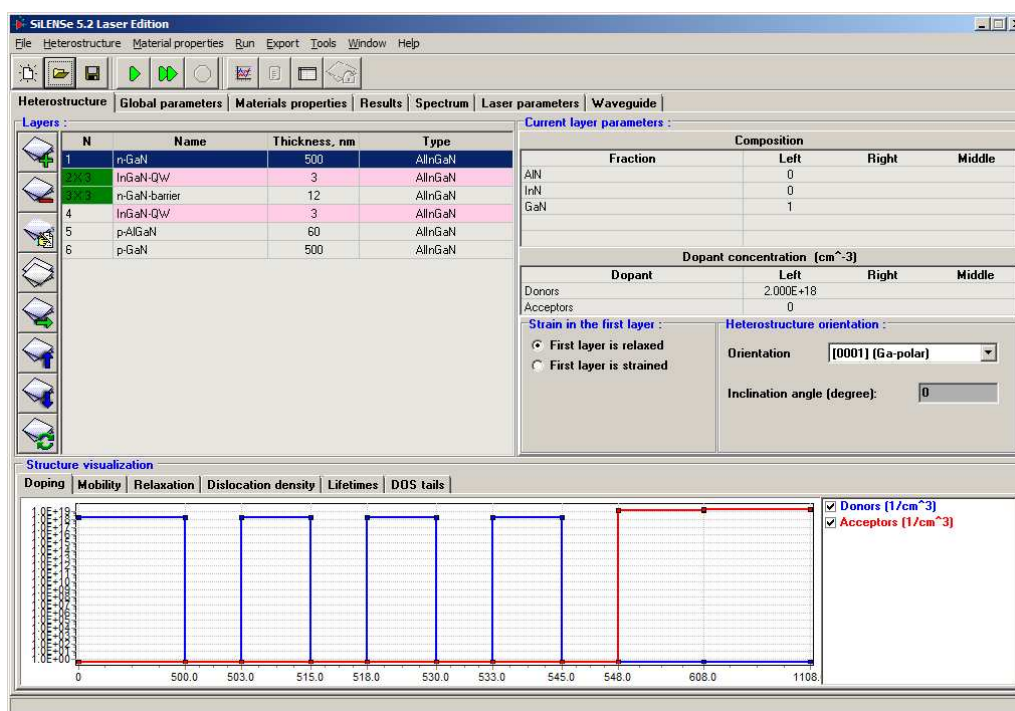

Fig. 3. Heterostructure tab window.
The *Heterostructure* tab window allows the user to specify the LED heterostructure considered to be a sequence of semiconductor layers (Fig. 3). To manage layers, one can use the *Heterostructure* menu items or buttons from the vertical toolbar in the left part of the tab. Use *Add Layer*, *Delete Layer*, *Edit Layer*, *Move Layer Up*, and *Move Layer Down* to create, delete, and move the layers. One can copy the selected layer into a buffer and insert the layer from the buffer after the selected layer by the buttons *Copy Layer* and *Insert Layer*, respectively.
*structure* button. The user is prompted to input a number of periods. When periodic structure is created, the number of periods is shown in the layer list, as seen in Fig. 3 for layers 5 and 6. To delete the periodic structure, one should use the *Periodic structure* button and input 0 or 1 period. The heterostructure may contain several periodic structures. Creating a new periodic structure overlapping with the existent ones will clear older periodic structures overlapping with a newly created one.